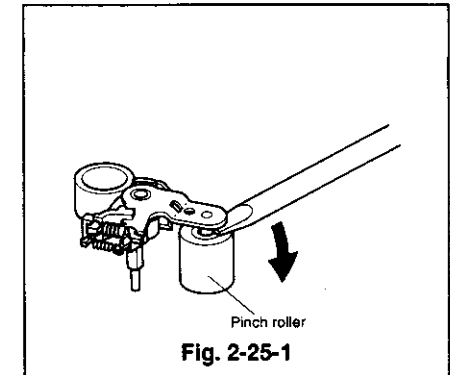

Fig. 2-25-1
- ① Pry the pinch roller and the roller cap to remove them as shown in Fig. 2-25-1.
- ② Remove the pinch spring and the pinch cam spring.